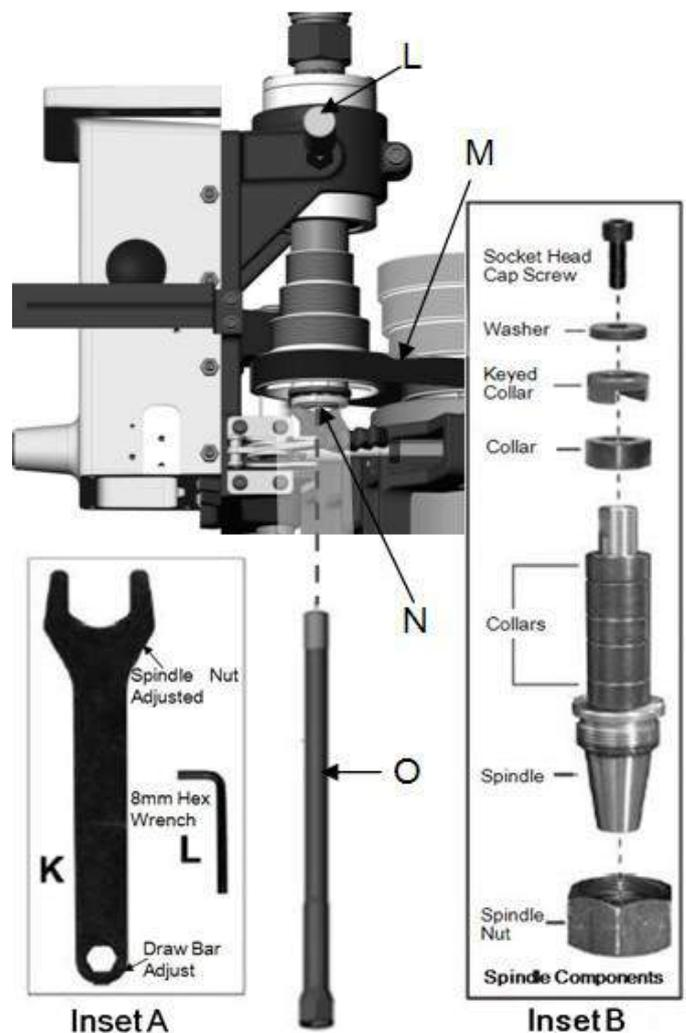

Fig. 14
The spindle assembly (B) is mounted to the arbor (H) and secured with a draw bar (O) and spindle nut (D). Use the following procedure to install the spindle assembly. Reverse the order to remove the spindle. Fig.14
The arbor must be locked as described in Spindle Attachment Installation, step 2 (Fig. 14)
1. Locate the spindle lock (L, Fig.14) accessible through the door on the right side of the cabinet. Pull out and rotate 90° right or left, resetting the knob into the indent.
Attempt to turn the spindle assembly (B, Fig. 14) by hand to verify that it is locked and will not rotate.
* Refer to Figure 14